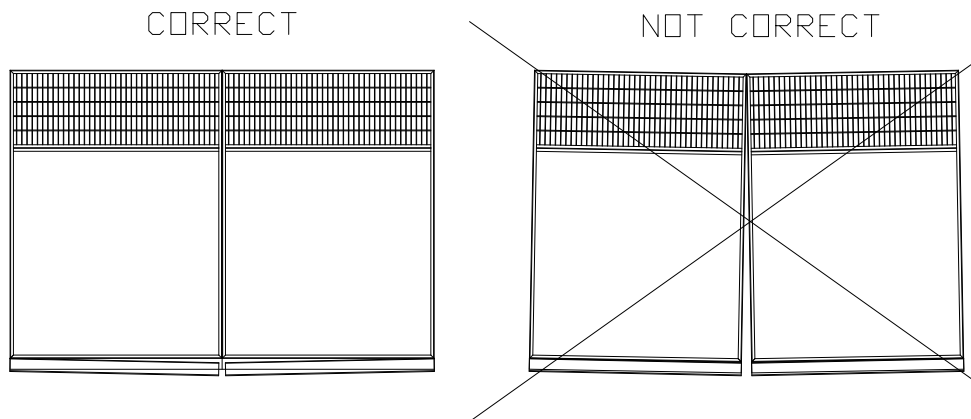

Figure 9
- Note:** If you have sloped floors you will have to raise the panels to ensure that they are aligned and are in contact with each other for the full length of the panel as shown in Figure 9.